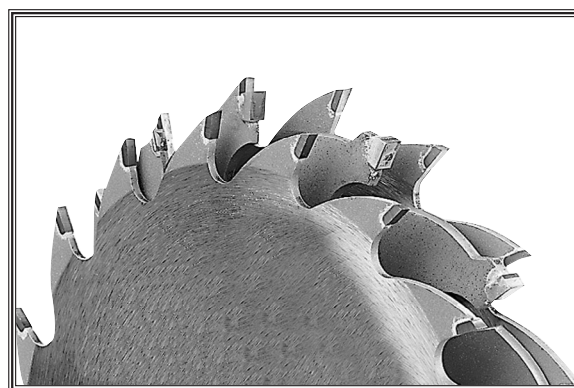

Figure 37. Stack dado blade.
- Dado blades come in three different types: stack dadoes, wobble dadoes, and V-dadoes. Dado blades allow the operator to change kerf sizes and to make quick and easy non-through cuts. Dado blades are primarily designed for making dado and rabbet cuts. The drawback to these type of blades are their high cost. **Figure 37** shows a stack dado blade.